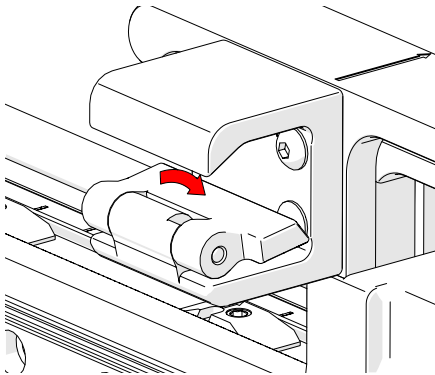
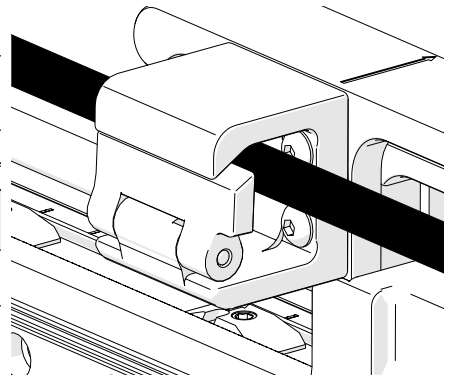

Fig. 37 - Carrier cable clip flap
Fig. 38 - Carrier cable clip
1. Push the cable clip flap down (Fig. 37) and insert the cables and hoses (Fig. 38).